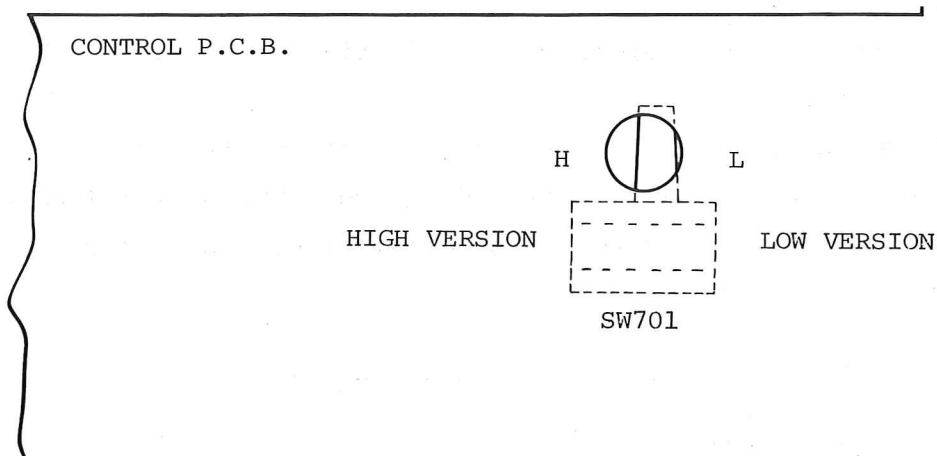

Fig. 2-7 Location of Tape Speed Conversion Switch
Tape speed conversion on the direct drive capstan model can only be made by placing the speed conversion switch (SW701), as shown in Fig. 2-7 , to the desired position, as well as the equalization switch. However, fine adjustment of the equalizer and a tape speed test are necessary.
2. Place the speed conversion switch(SW701) to the desired position by using a minous-head screw driver (refer to Fig. 2-7).